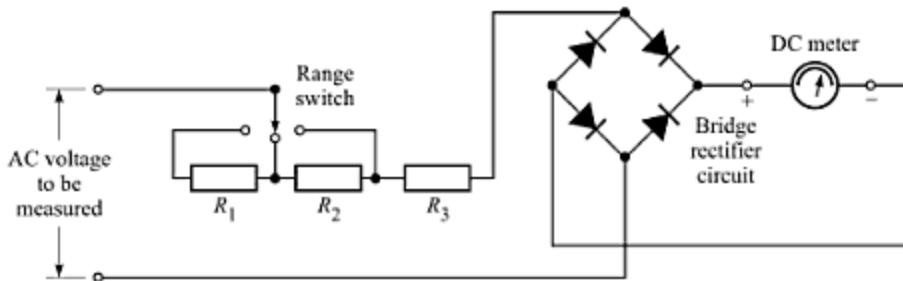

Fig. 18.18 An ac multi-range voltmeter.
**AC Voltage Measurement** A dc meter can easily be converted into an ac meter, by simply putting a rectifier in the circuit. Figure 18.18 shows the circuit of an ac multi-range voltmeter. It uses a full-wave bridge rectifier circuit to convert ac voltage to be measured into a dc voltage. The dc voltage is then read on the dc meter. The *range-switch* selects different voltage ranges.